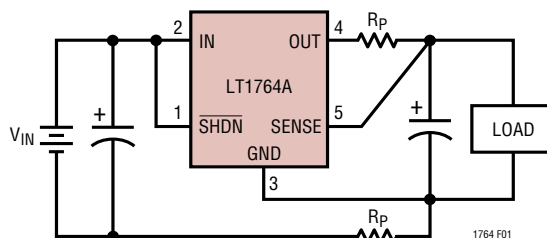

Figure 1. Kelvin Sense Connection
**SENSE (Pin 5/Pin 5/Pin 6):** Sense. For fixed voltage versions of the LT1764A (LT1764A-1.5/LT1764A-1.8/LT1764A-2.5/LT1764A-3.3), the SENSE pin is the input to the error amplifier. Optimum regulation will be obtained at the point where the SENSE pin is connected to the OUT pin of the regulator. In critical applications, small voltage drops are caused by the resistance ( $R_P$ ) of PC traces between the regulator and the load. These may be eliminated by connecting the SENSE pin to the output at the load as shown in Figure 1 (Kelvin Sense Connection). Note that the voltage drop across the external PC traces will add to the dropout voltage of the regulator. The SENSE pin bias current is 600 $\mu$ A at the nominal rated output voltage. The SENSE pin can be pulled below ground (as in a dual supply system where the regulator load is returned to a negative supply) and still allow the device to start and operate.